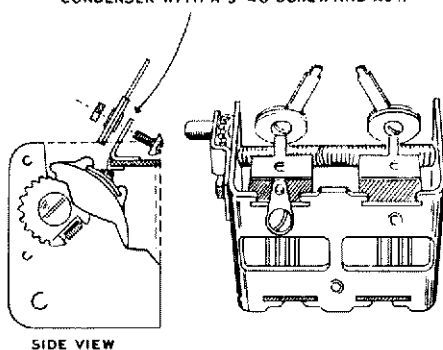

Fig. 4
- () Bend the remaining two stator lugs as shown in Figure 4, side view.